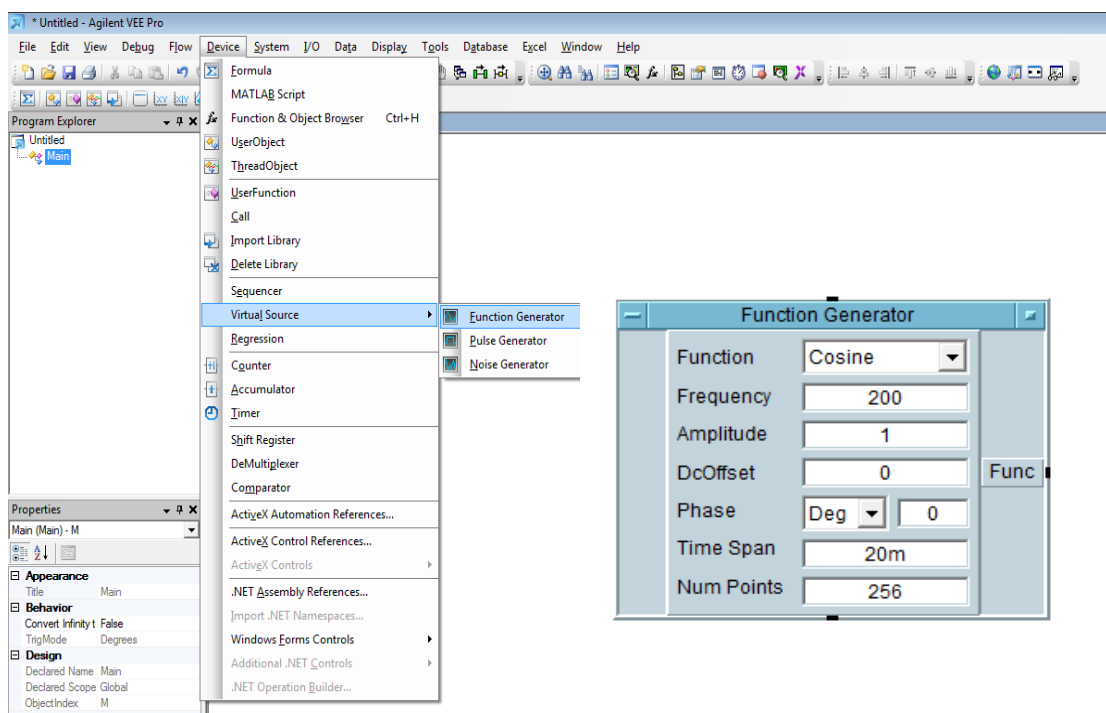

Fig. 4. Function Generator
- In order to create a virtual function generator, select **Menu Bar** → **Device** → **Virtual Source** → **Function Generator**. In Fig. 4, you can see how a function generator is created and a **Function Generator** object. You can adjust the type of function (cosine, triangular, etc.) and other parameters of it from the dropdown menus. The rectangle labeled as **Func** is the data output pin of the Function Generator object and it is the generated waveform.